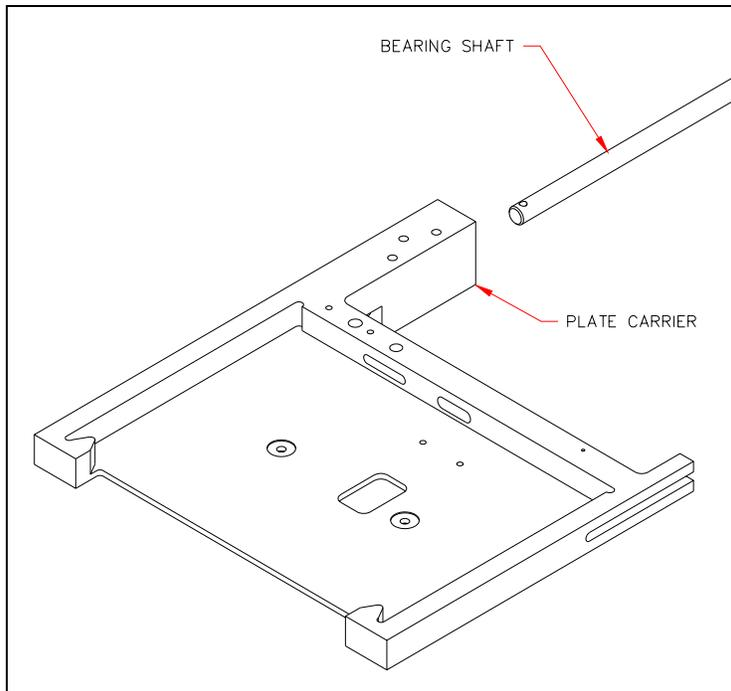

Figure 9-20 Plate Carrier Assembly
- 3 Remove the bearing shaft as shown in Figure 9-20.